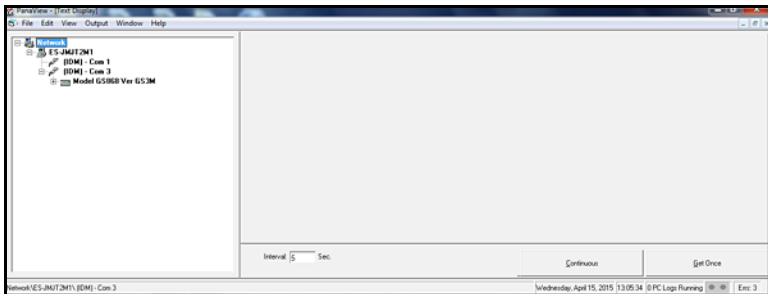

Figure 52: The Text Display Window
3. Open the “Output” menu and click on the “Text Display” option (this menu is discussed in detail in *Chapter 6. “Data Handling”*) to open a window similar to *Figure 52 on page 73*. By default, this window is stacked on top of the previously visible “Meter Browser” window.
3. Using the *“Window”* menu, as described in *“Multiple PanaView Windows”* on page 67, arrange the open windows in the desired format. For this discussion, *Figure 52* below shows the *“Text Display”* window in its maximized (full-screen) size.
Note: Figure 52 above has been compressed both vertically and horizontally for improved clarity.
5. Before actual data values can be displayed in the text pane, activate one of the following data collection modes (see *Figure 52 on page 73*):